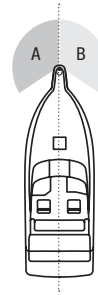

Figure 2
All positive (+12V DC) wires must be fused to protect your circuits and vessel. The Bi-color navigation light requires a 1-amp fuse. The aluminum pole is not connected to an electrical ground (Figure 2). Regulations require lights to be operated with a three-position switch for running lights (bow lights and all-round light) and anchor lights (all-round light only).
1. Align pole screw with the slot (or locking spring) in the existing base. Insert pole into base (Figure 2).